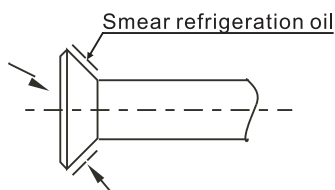

Figure 5.1
b. Smear the refrigeration oil (it must be engine oil which is compatible with the cooling medium of this type) on the outside surface of flared joint and the conical surface of connecting nut and screw it 3 or 4 rounds with your hand (Fig. 5.1) before screwing the flared nut up.